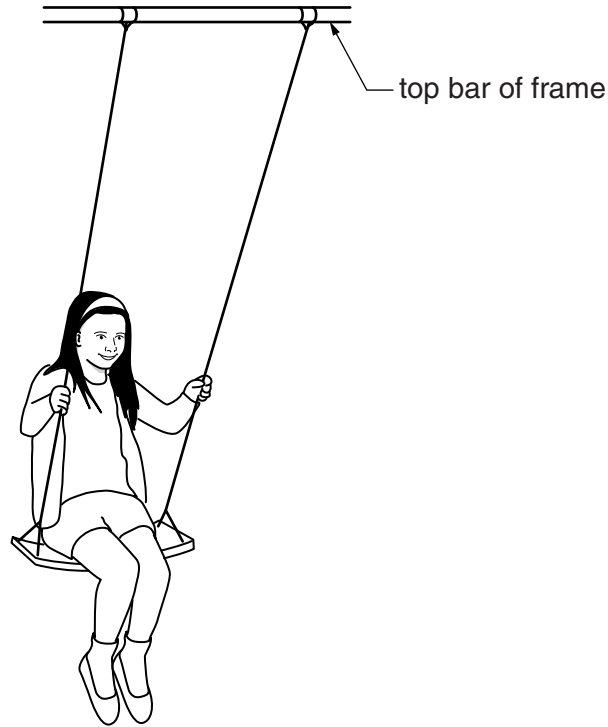

Fig. 8
- 8 Fig. 8 shows an incomplete idea for a child's swing. The frame for the swing will be 1800mm high.